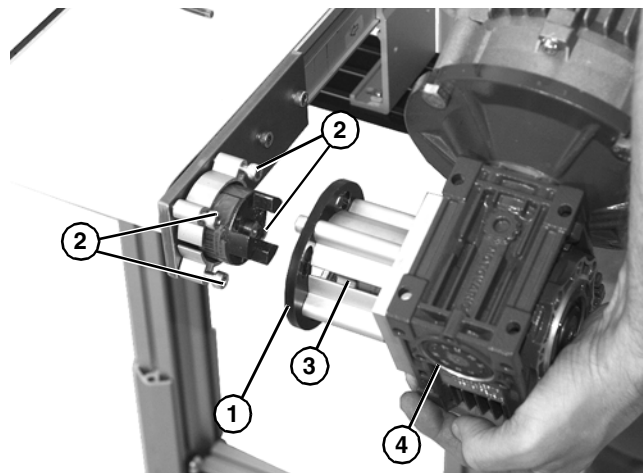

Figure 13
3. Rotate and remove gearmotor and gearmotor mounting ring (Figure 13, item 1) from four M6x30 mounting screws (Figure 13, item 2) (through slots in gearmotor bracket) and remove entire gearmotor assembly from conveyor.
4. Remove spider bushing (Figure 13, item 3) from mating female portion of three jaw coupling on gearmotor assembly (Figure 13, item 4).